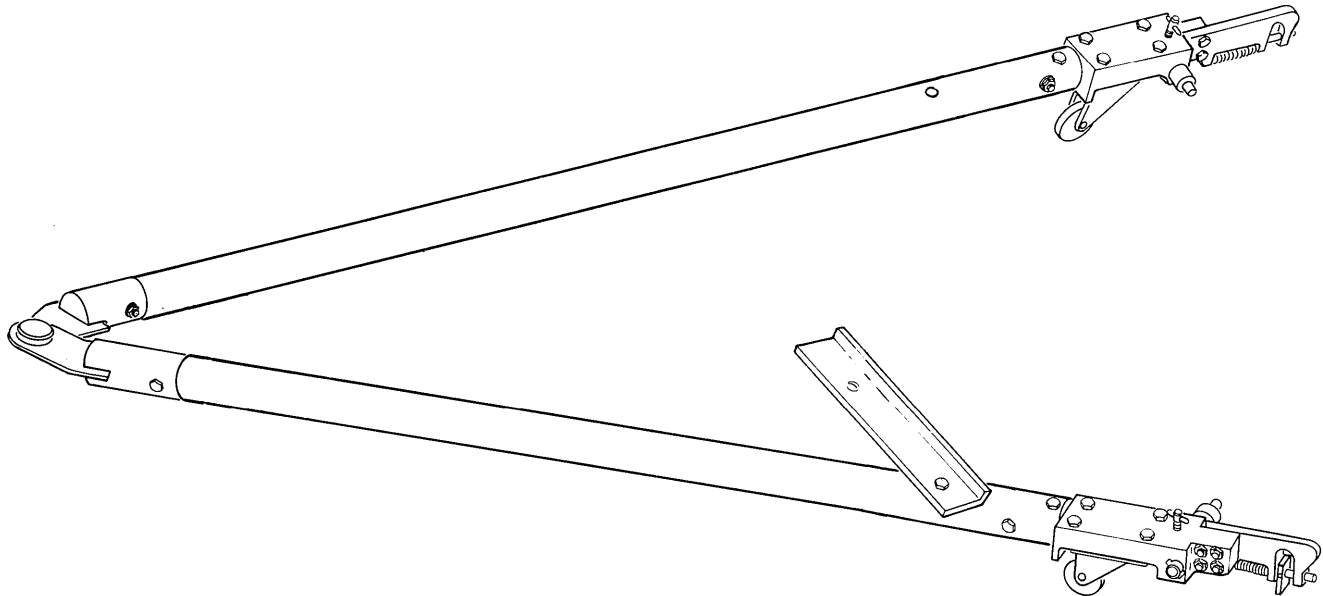

Figure 9-16. Towbar
(6) Maintenance. Consult to the 35E7-2-3-21 and applicable maintenance manual for preventive and scheduled maintenance requirements.
i. Towbar. A towbar, show in figure 9-16, is used for ground movement of aircraft. It can be attached to